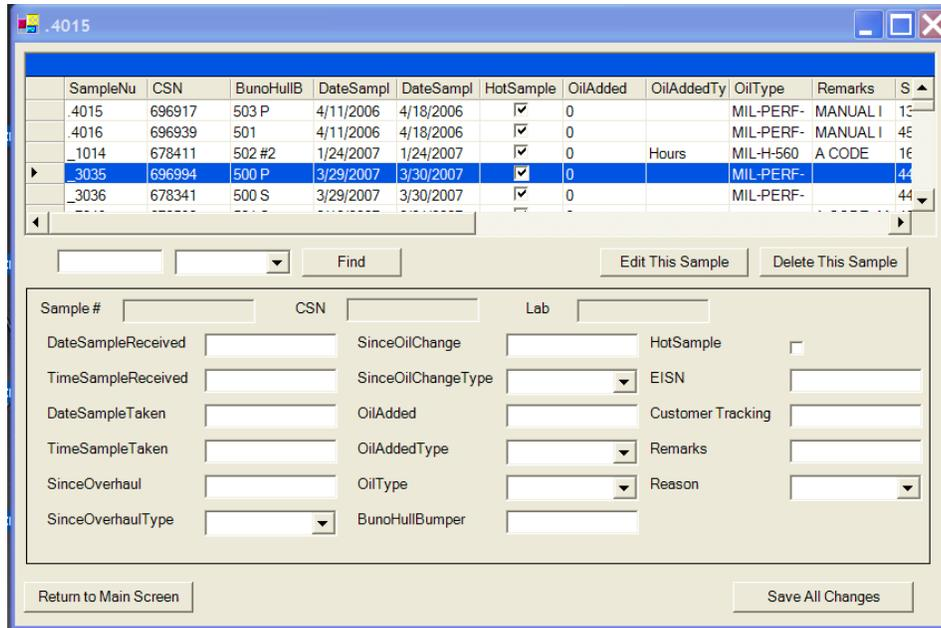

Figure 95. Sample Options
- (5). Press OK.
- (6). To delete a sample highlight the sample (Figure 95).